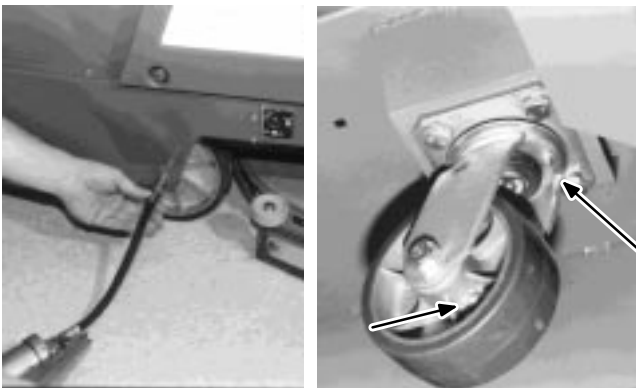

FIG. 15.
2. Grease main wheel bearings and swivel and wheel on the caster (Figure 15).